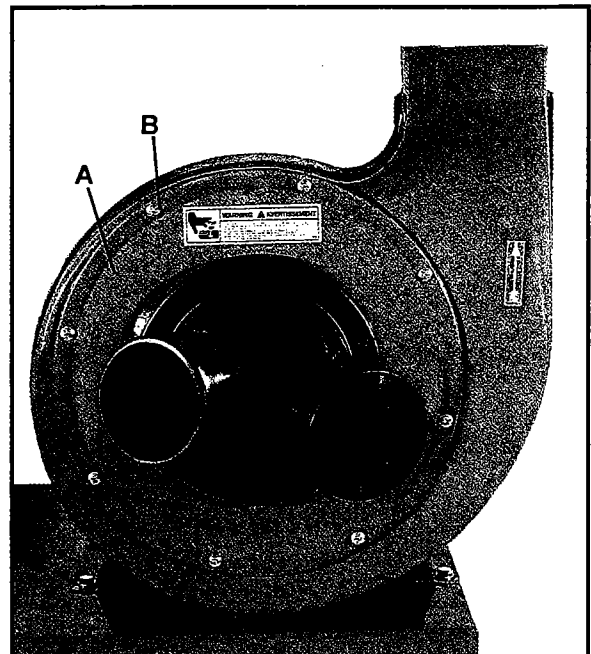

Fig. 3
3. Attach inlet cover (A, Fig. 3) to fan housing using eight M6 x 12 pan head screws (B, Fig. 3).